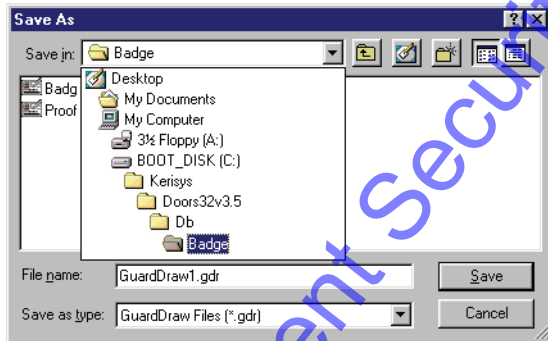

Figure 9-13: The Template Folder Structure
2. Click the  at the right side of the “Save in” field and the current folder structure is displayed (see Figure 9-13).